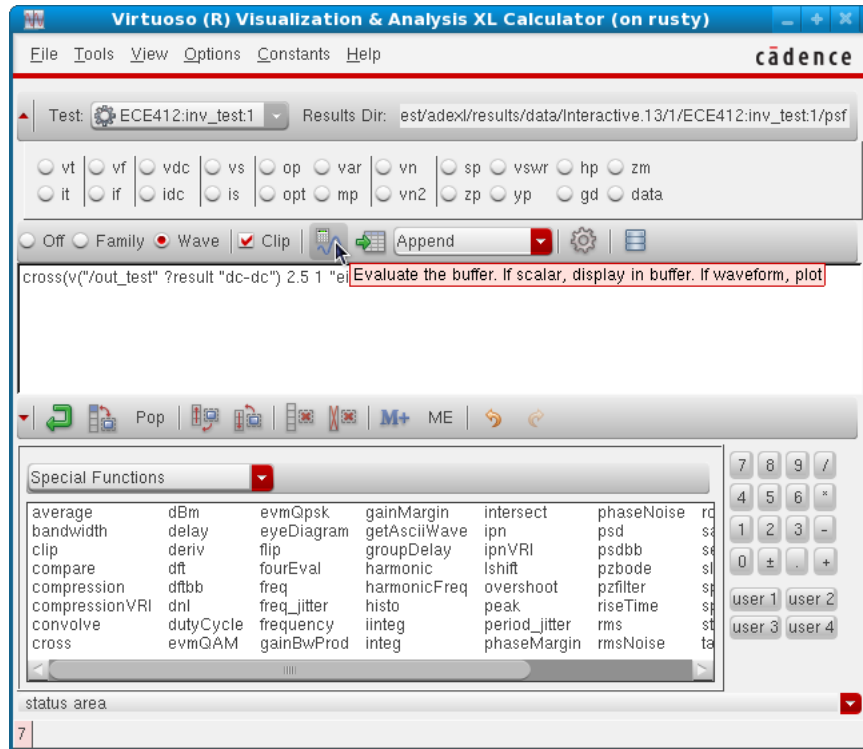

Figure 19: Virtuoso Calculator
9. The calculator’s buffer text area should have the cross() function with the proper parameters. Click on evaluate buffer as depicted in figure 19 and write down the result, we will use it later in AC analysis. You can now close the calculator and the graph window.